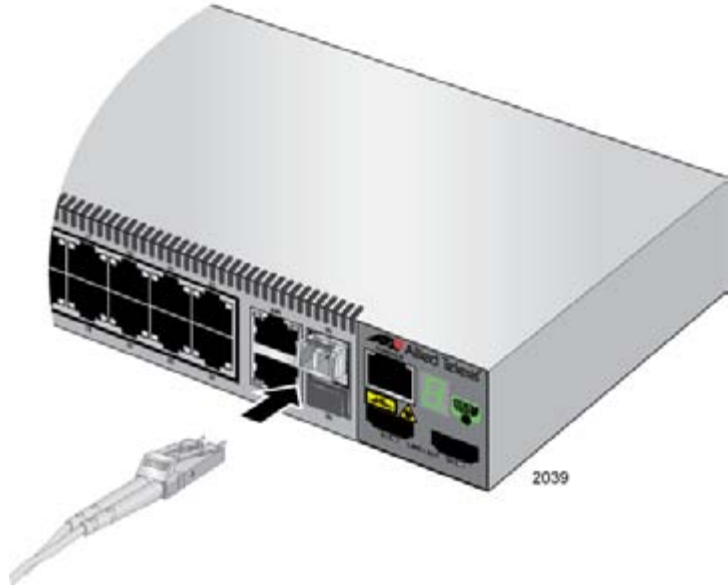

Figure 33. Connecting the Fiber Optic Cable to the SFP Module
7. Connect the fiber optic cable to the SFP module, as shown in Figure 33.